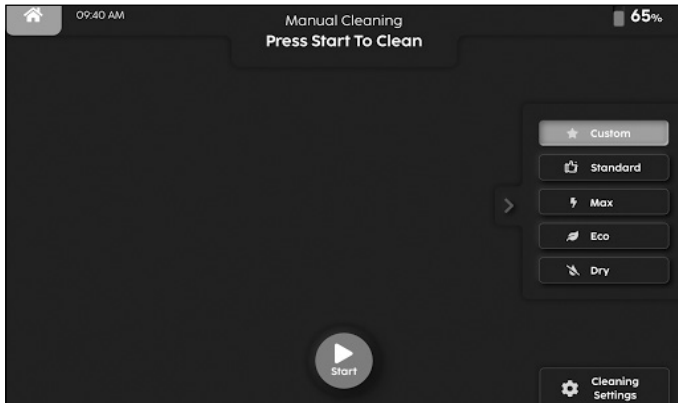

Figure 47
4. Press 'Start' to start cleaning (**Fig. 47**).